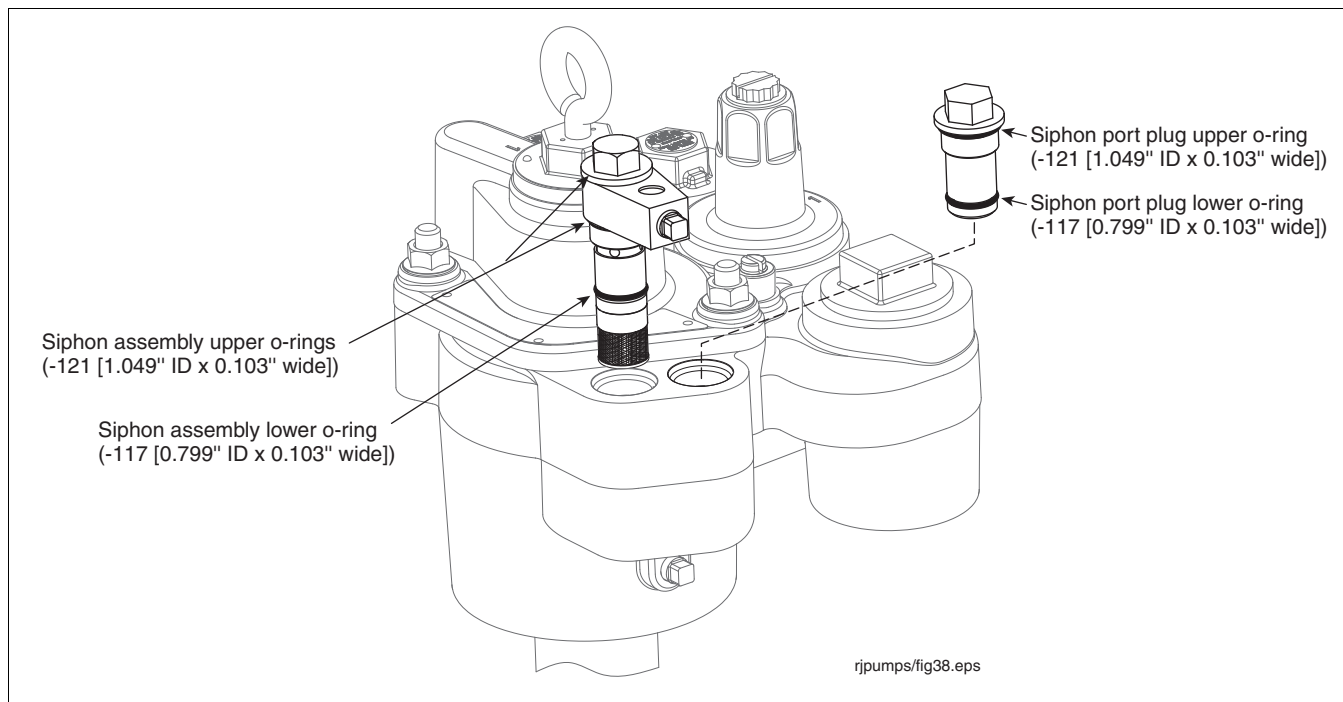

Figure 27. Inserting Siphon Assembly Into Manifold
5. Insert the siphon cartridge into the siphon port (see Figure 27). Swivel the outlet port of the siphon in the desired direction, and then hand tighten the siphon's retaining hex body. Torque the body to 25 - 30 ft-lbs (34 - 41 N•m).